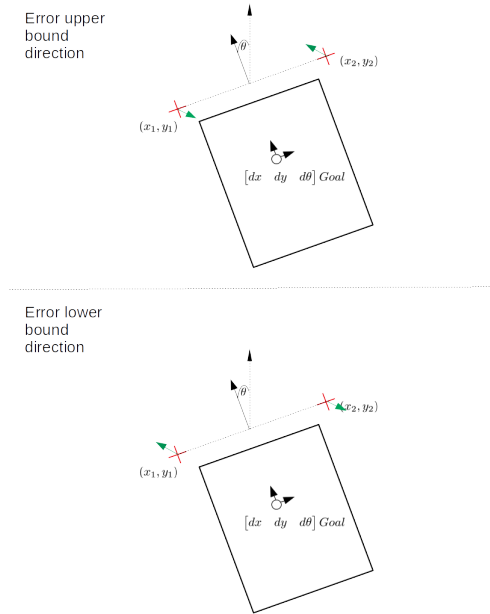

Figure 1.8: Error Bounds
- The upper bound and lower bound of errors were defined according to Figure 1.8 . The green arrows represent the vector in which direction the error should propagate for it to be the upper or lower bounds of the error.